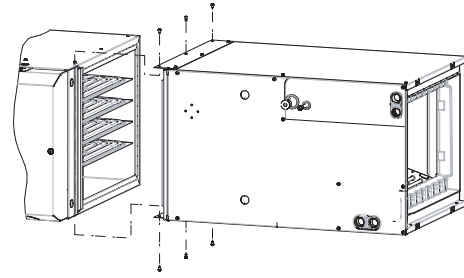

Fig. 5 - Horizontal Right Installation
4. Use self-tapping screws to attach furnace. (See Fig. 5.)